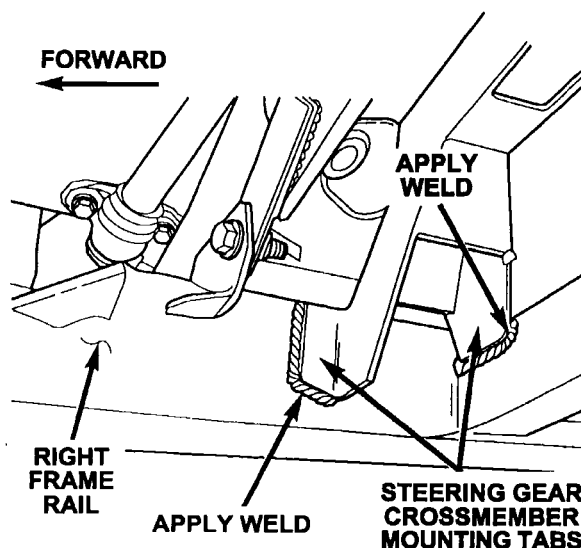

Figure 8 – Right Side Shown
13. Weld the rear crossmember tabs into position (Figure 8). Do not weld the front tabs at this time.
15. Tack weld the front steering gear crossmember mounting tabs to the side of the frame rails and then remove the “C” clamps (Figure 8).
17. Weld the steering gear crossmember mounting tabs to the side of the frame rails (Figure 8).